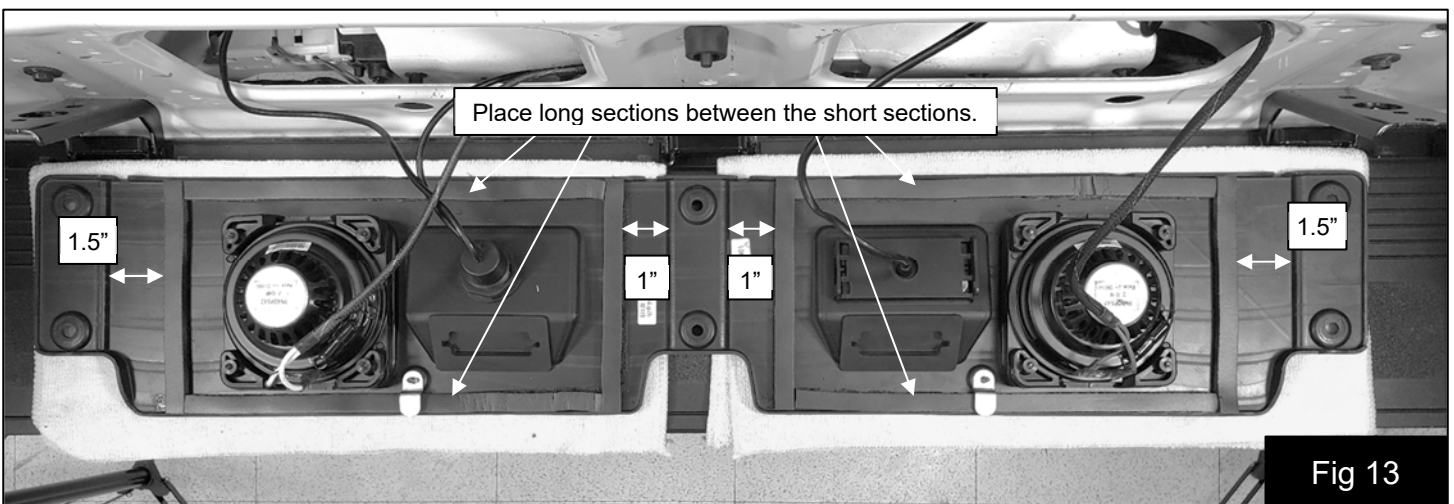

Fig 13
16. Lay a towel on the tailgate step to avoid scratching the face of the speaker baffle and connect the speaker wires to the speakers. Next, install the foam strips as shown in Fig 13. Use the measurements shown to place the shorter sections, and then place the longer sections between the short sections and against the edge of the speaker baffle.